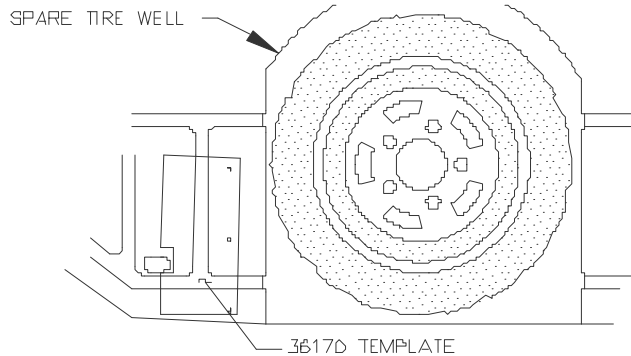

FIGURE 1. INSIDE TRUNK DRIVER'S SIDE
- * PLACE TEMPLATE INSIDE TRUNK ON DRIVER'S SIDE OF SPARE TIRE WELL. SEE FIG 1.
5. CENTER PUNCH THREE (3) PLACES AS SPECIFIED ON "3617D TEMPLATE." REMOVE TEMPLATE. DRILL THREE (3) 1/8" HOLES DOWN THROUGH TRUNK PAN AT CENTER PUNCHED LOCATIONS.